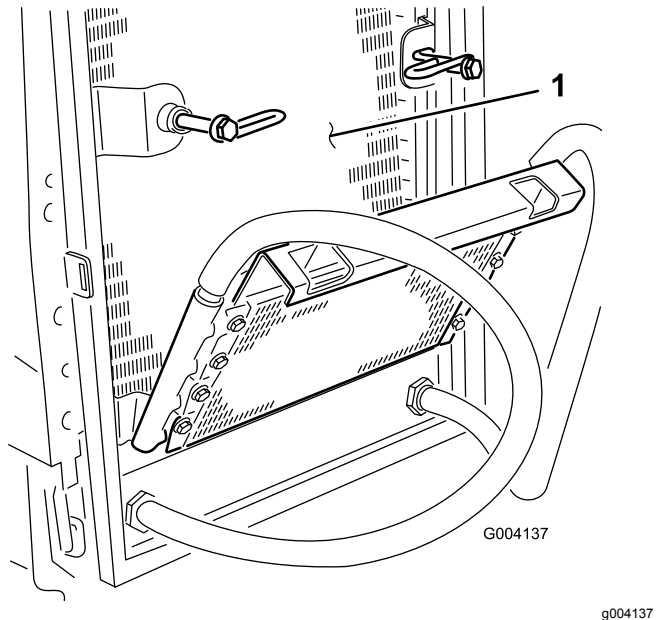

Figure 52
6. Thoroughly clean both sides of the oil cooler and the radiator (Figure 52) with compressed air.